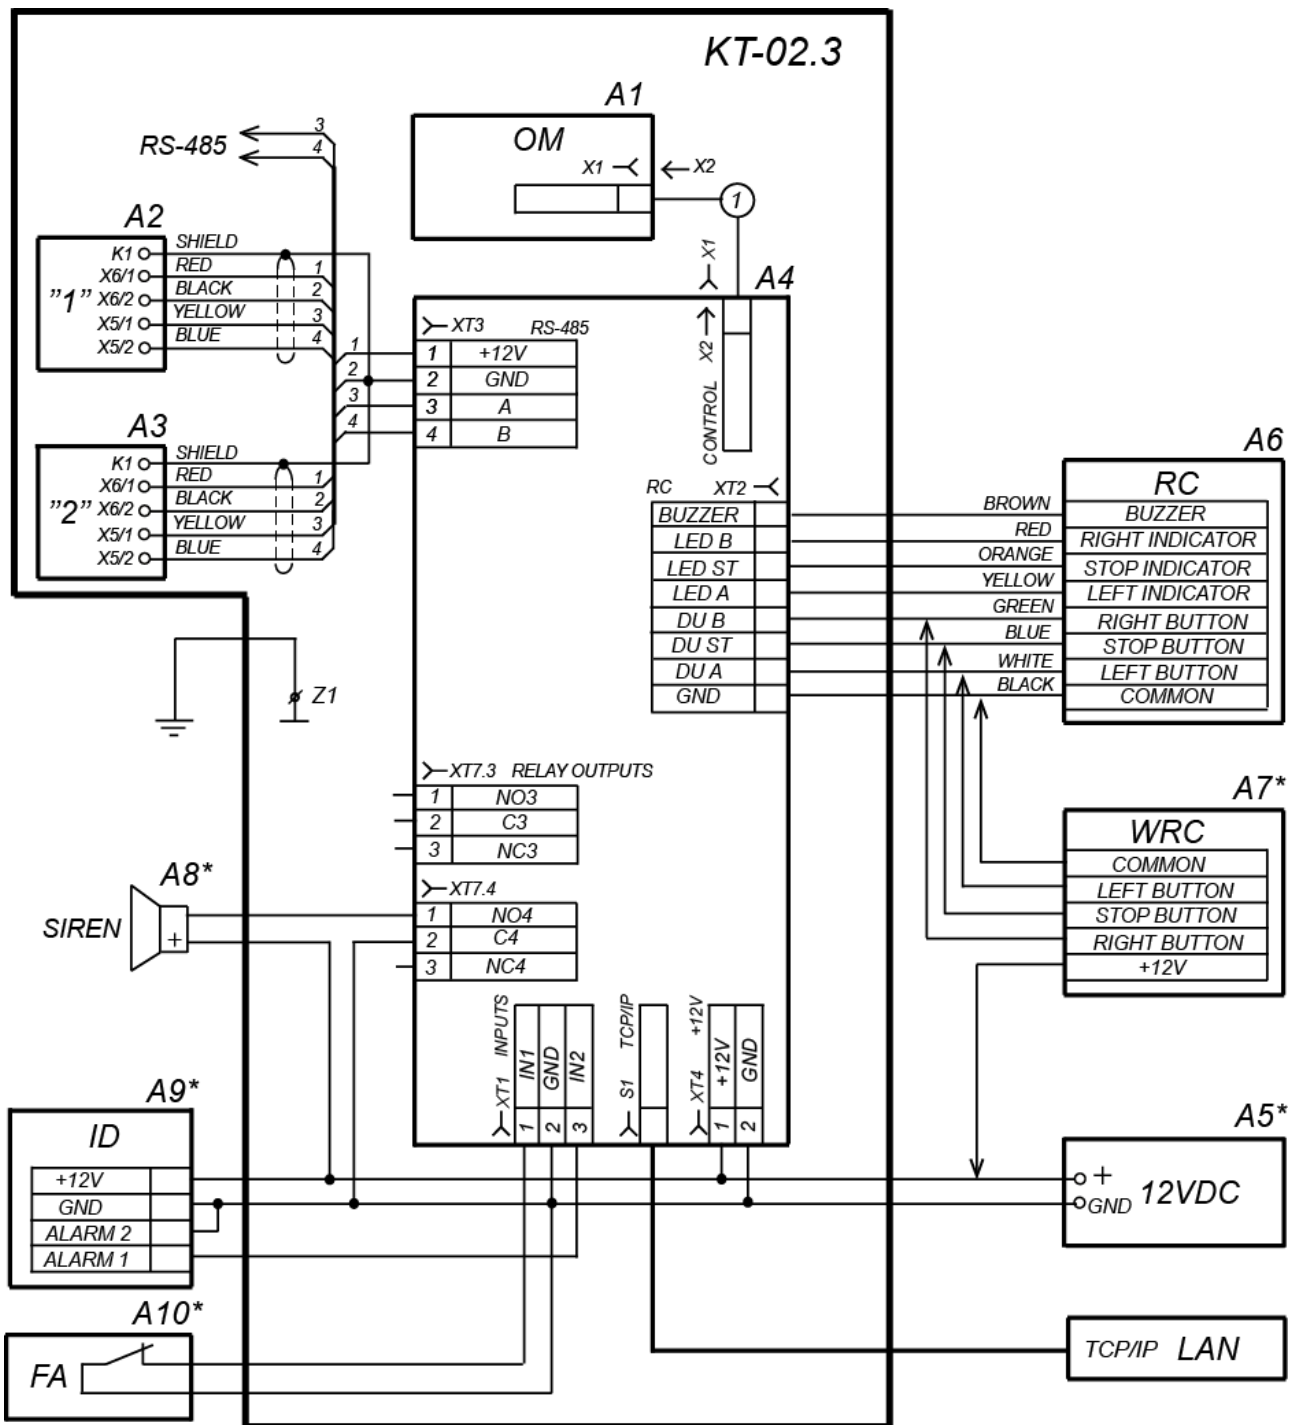

Figure 12. Connection layout for ID Gate 6500 and optional equipment ⁷
- (during installation of IP-Stile, the openings 8 and 9 are sealed with the insulation bushings); referred to as A1-A4 in Figure 12
The connector block position on the IP-Stile controller board is shown on Figure 5. Connector block layout is shown in Table 1. Connection layout is shown Figure 12. Types of cables are stated in Table 5. Follow this sequence during reader installation:
11. Connect the power cable (12) to the **XT4** connector block on the controller board. Connect the cable of the RC-panel (10) to the **XT2** connector block as per Figure 12. If necessary, connect cables of other devices to the corresponding connector blocks.
12. Perform the IP-Stile housing grounding. Ground contact **Z3** is under the top cover (3) to the left of the controller board. In order to fix the grounding cable on the contact use M4 screw.